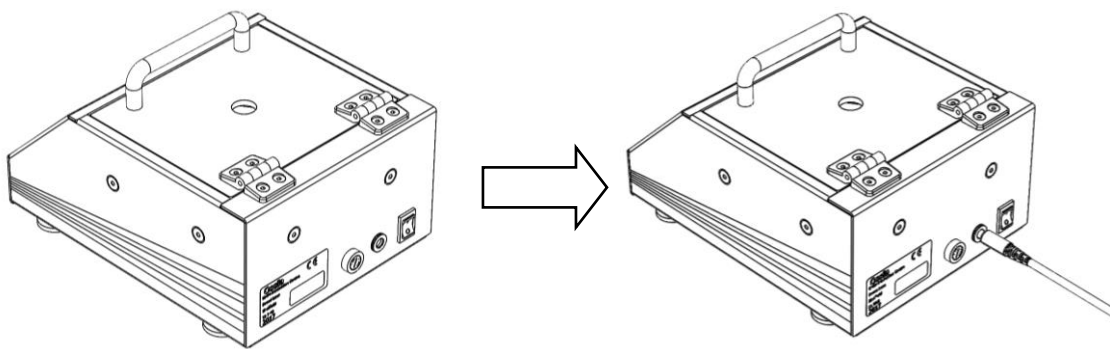

Figure 7.1. Connecting the power adapter to the power jack on the back panel of the unit.
3. Connect the power adapter to the power jack on the back panel of the spin coater unit, see figure 7.1.